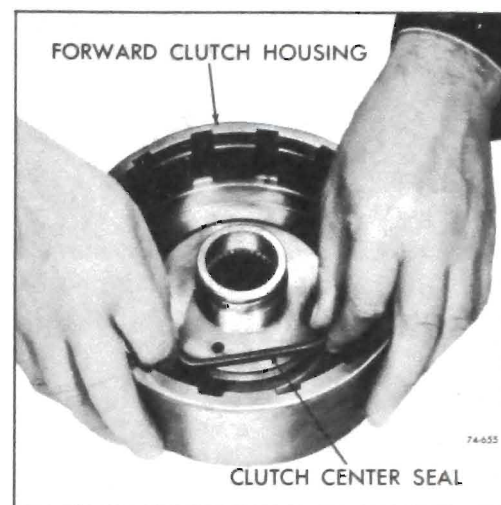

Figure 76-654
10. Remove center piston seal from the forward clutch housing. See Figure 76-654.
2. Place a new center seal on the clutch housing, lip faces up. See Figure 76-654.